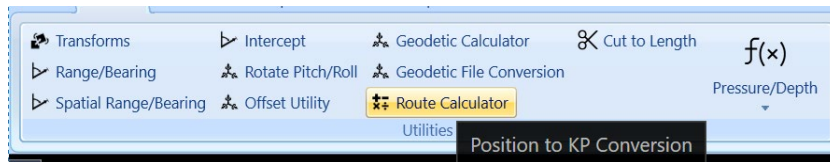

FIGURE 26 ROUTE CALCULATOR – UTILITIES
5. The Data Tab, see Figure 26, is used to define the Source data format and Target data format. The parsed data from the imported file is displayed in the data panel.